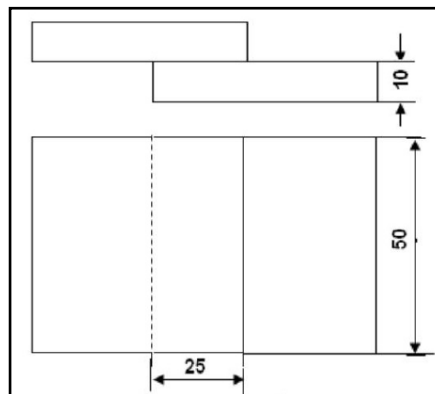

Figure 3.1. Lap Joint 1
- Single fillet and double fillet joints shown in figure 3.1 are used on all thicknesses; double fillet joint is better as compared to single fillet when the joint is subjected to severe loading. Single fillet joints are not recommended on plates under bending, fatigue or impact loading conditions.